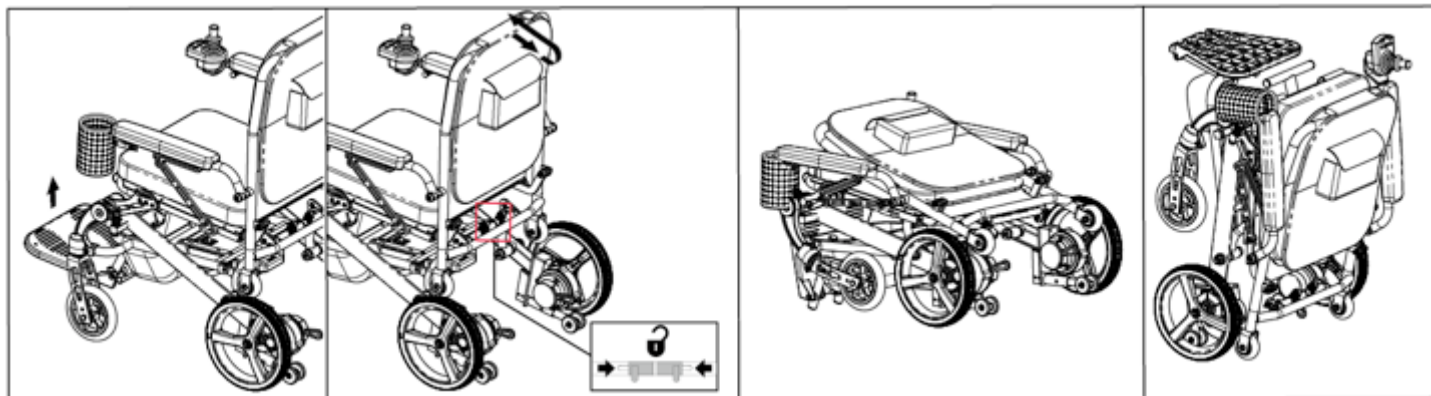

Figure 7. Dashi
3. Place one hand on top of the seatback and pull it toward you while squeezing the pins of the locking mechanism together. **See figure 7.**